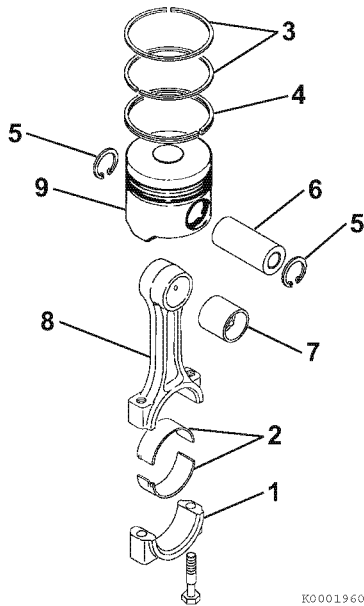

Figure 6-134
4. Lubricate and reinstall the wrist pin (**Figure 6-134, (3)**) through the piston and connecting rod.
5. Reinstall the second circlip (**Figure 6-134, (4)**) and ensure it is securely seated in the groove.